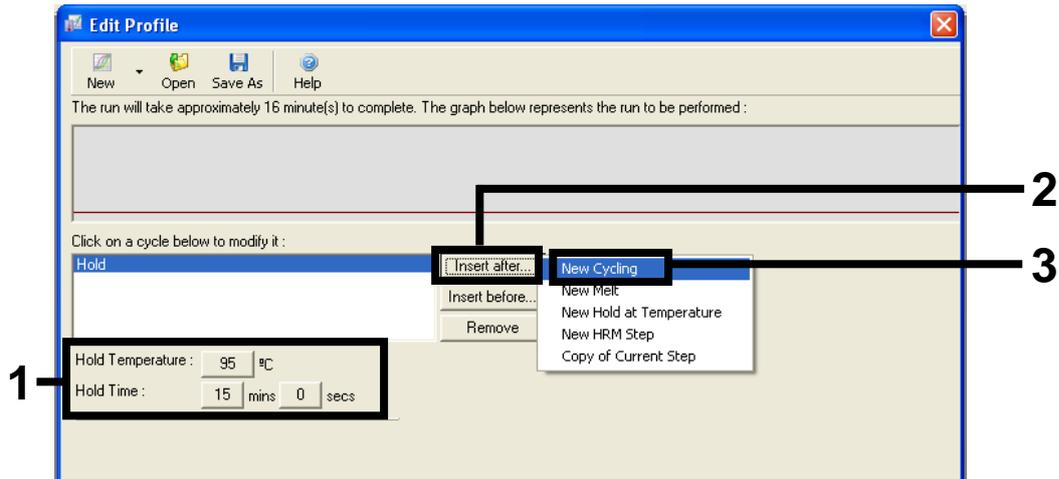

Figure 24. Initial incubation step at 95°C (1 = "Hold Temperature and Hold Time" buttons; 2 = "Insert after" button; 3 = "New Cycling").
- Change "Hold Temperature" to 95°C and "Hold Time" to 15 mins 0 secs. Click "Insert After" and then select "New Cycling" (Figure 24).